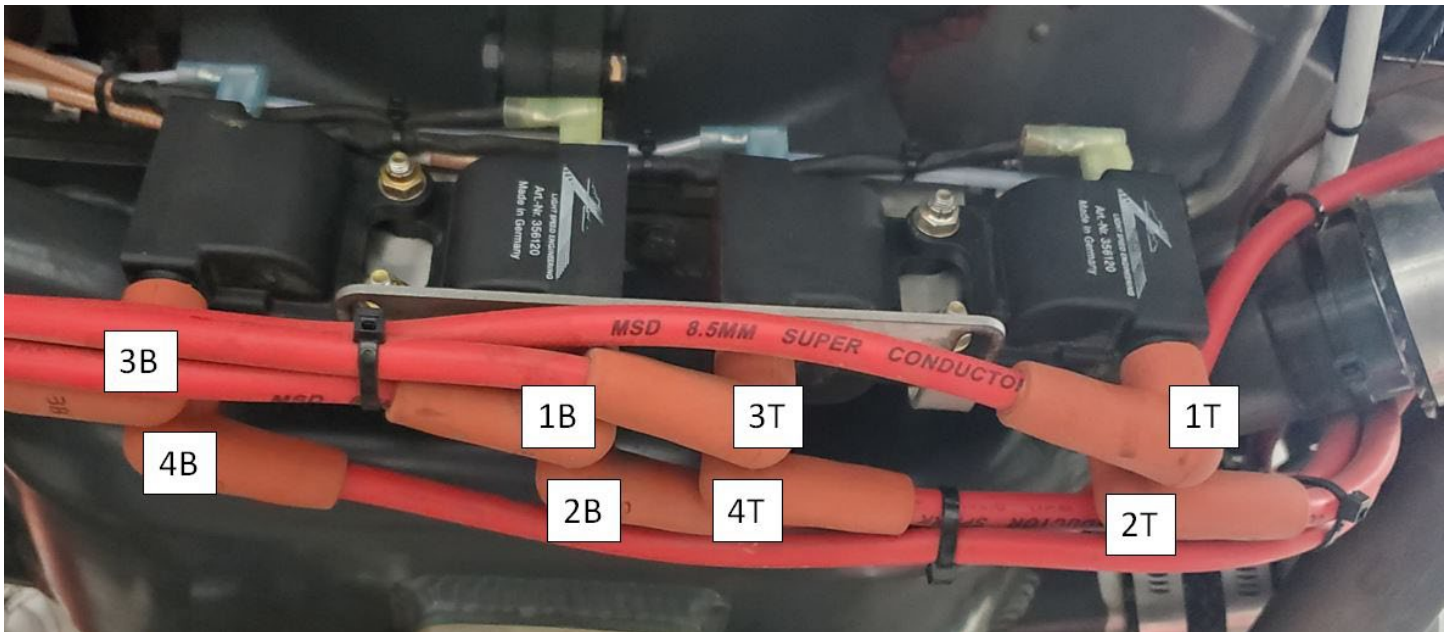

FIGURE 1 – SPARK PLUG AND IGNITION WIRE LABELING
3. Label each spark plug wire and corresponding ignition wire (the spade connection opposite each spark-plug wire stud) as shown in Figure 1. Then remove the spark plug wires and ignition wires from the ignition coils.